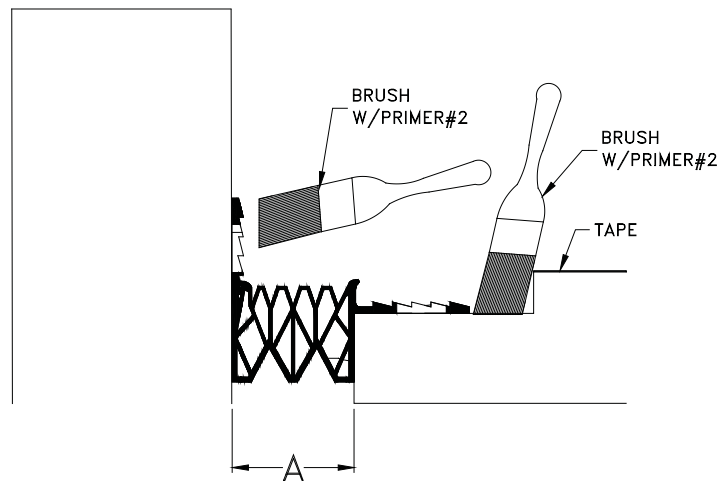

Figure 6
- STEP 7.** Thoroughly mix one unit of Balco Primer #2 (part A and B) and brush/roller apply to the horizontal and vertical surfaces of the blockout and to the portion of the facing wall under the seal wing (see Figure 6). Ensure that the Primer #2 does not puddle. Allow the Primer #2 to cure to a point where it is just dry. Typical coverage rate is 60 ft./unit.